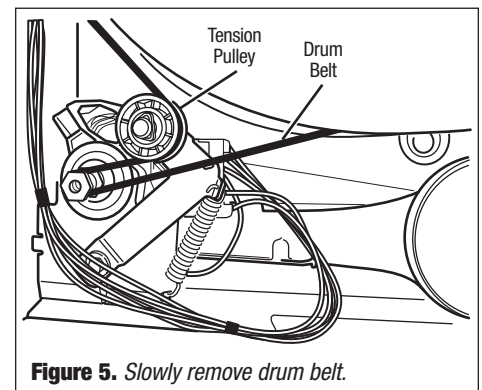

Figure 5. Slowly remove drum belt.
5. Check the belt switch and drive motor. Access the belt switch and drive motor by removing the back panel. See Removing the Back Panel, page 9. Slowly remove the drum belt from the spring-loaded belt switch tension pulley, gently letting the pulley down. See figure 5.